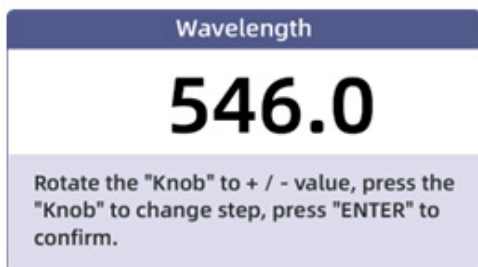

Fig. 6-13 Set the measurement wavelength
1. Press the knob to pop up the setting interface (Figure 6-13), rotate the knob to change the measurement wavelength, press **"ENTER"** to confirm;